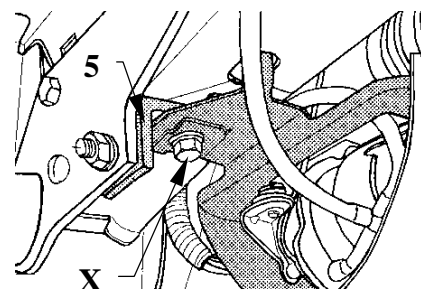

Fig. 2
2. Fix loosely right angle bar (pos. 5) to the right side of the chassis through hole (pos. A) using bolt M10x35mm (pos. 9).
**For models without level adjustment:** Fix loosely left angle bar (pos. 5) to the left side of the chassis through hole (pos. A) using bolt M10x35mm (pos. 9).
**For models with level adjustment:** Remove bolt X shown in figure 2, place angle bar (pos. 5) between just removed plate and the chassis. Fix loosely using bolt M10x35mm.